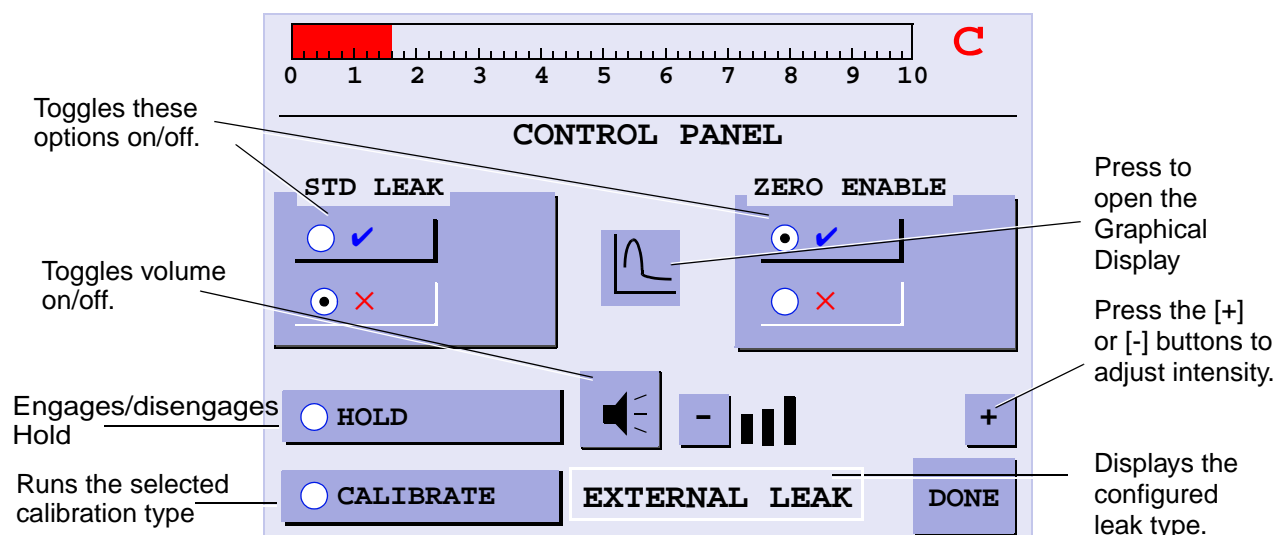

Figure 2-4 Control Panel
- Press **Control Panel** on the Home screen. The Control Panel screen appears (Figure 2-4).